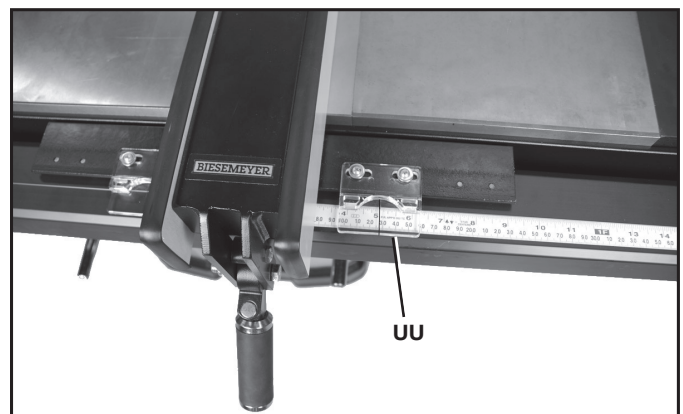

FIG. 27
2. Set the right pointer (UU) Fig. 27 to zero and tighten pointer hardware.